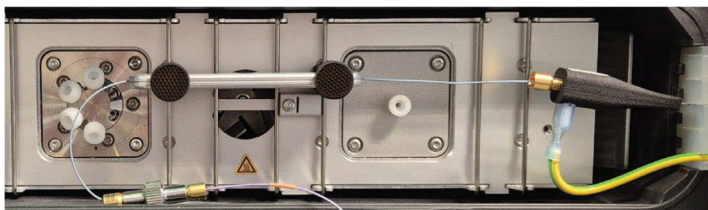

Figure 2. Installation of the μ PAC Neo Plus column in the column oven using column clips and patches
7. When installing the μ PAC Neo Plus column in the Vanquish Neo column compartment, use the column kit (P/N 6722.0290, included in the Vanquish Neo column compartment ship kit) together with the μ PAC column patches (Figure 2).